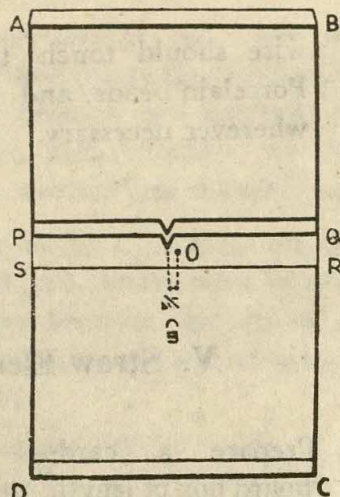

FIG. 2.5.2
4. Make V shaped cuts on each strip about $1/2$ cm away from their centres O and O' (Fig. 2.5.2)